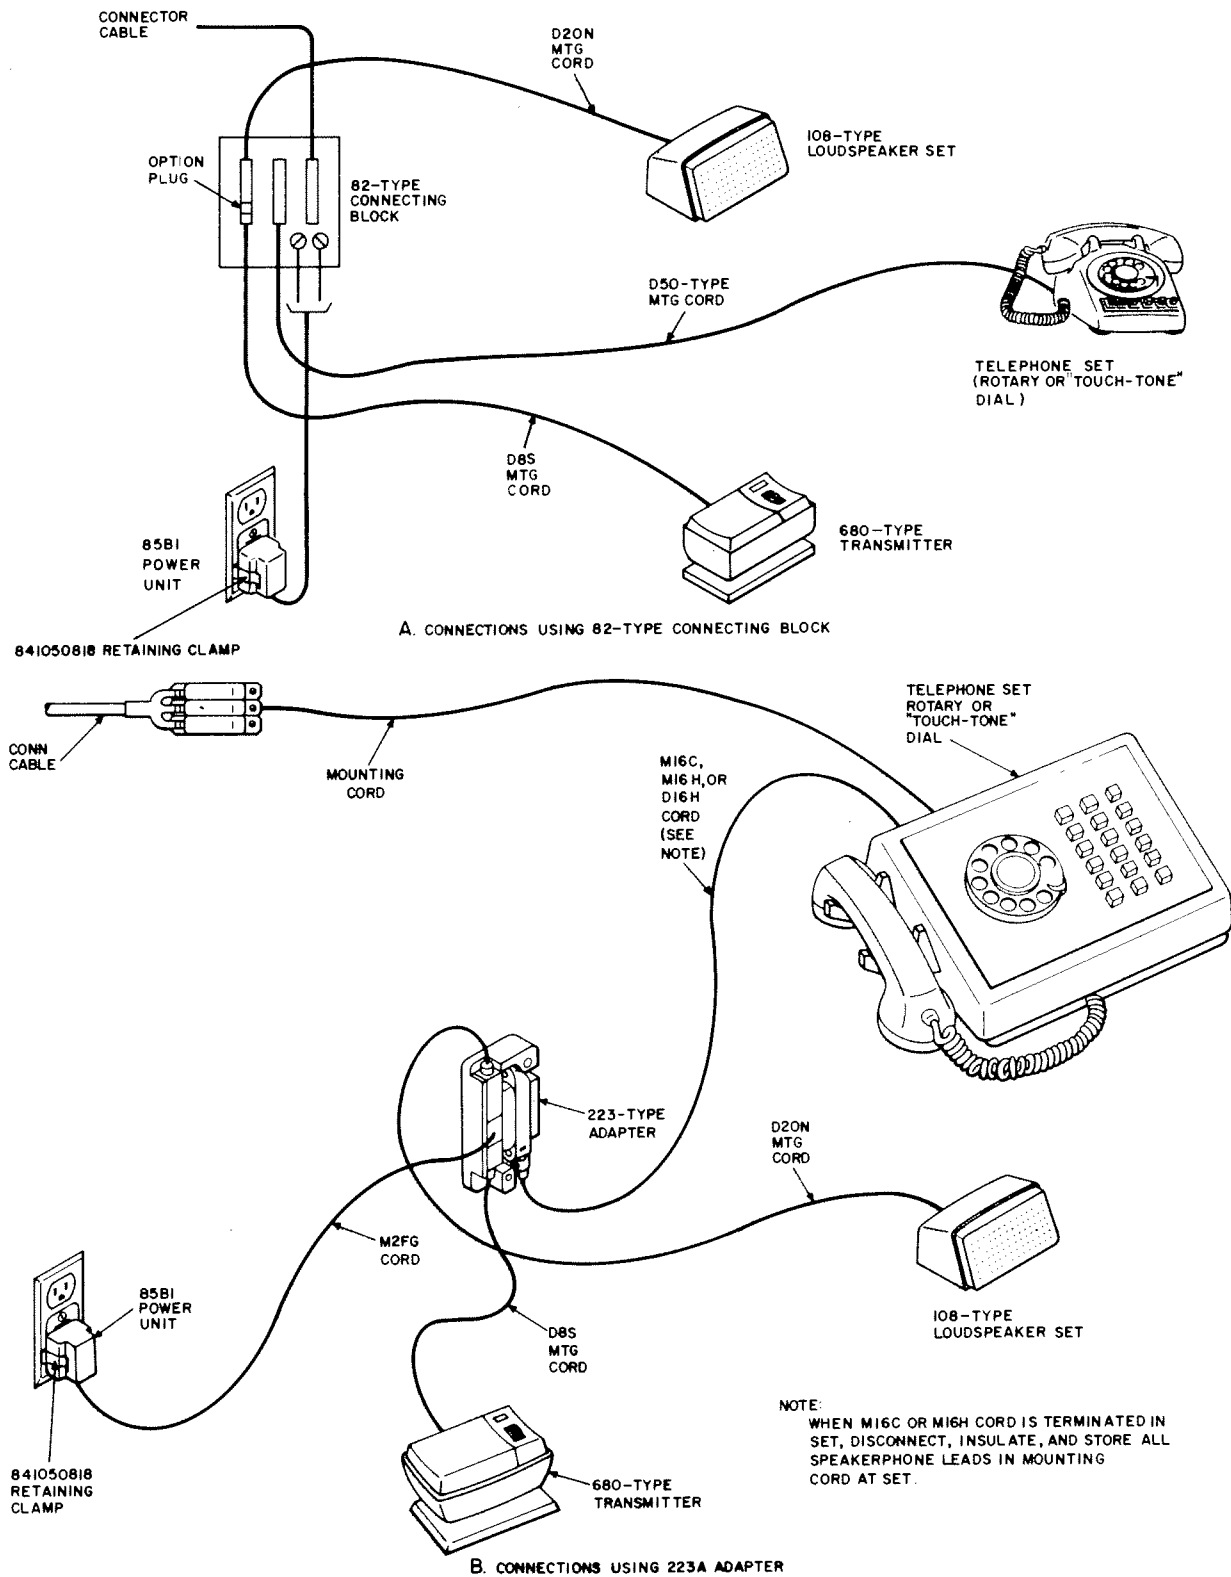

Fig. 1—Typical Arrangements of 4A Speakerphone System
- 2.23** A retaining clamp (841050818) (Fig. 1 and 2) will be shipped with the 85B1 power unit and should be mounted to the ac receptacle to hold power unit securely and to prevent accidental loss of power.